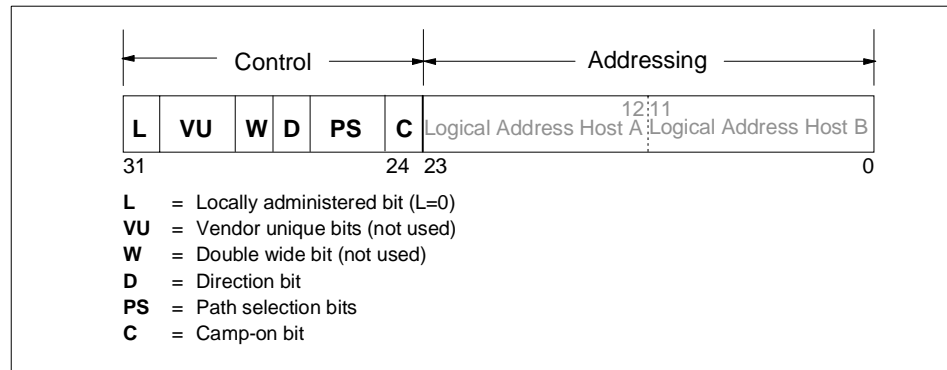

Figure 49. HIPPI I-Field Components
The I-field tells the GRF how to process the connection, and where to send the data. Figure 49 shows the basic structure of a HIPPI I-field. Connection control information is in the leftmost 8 bits, addressing takes up the other 24 bits.
HIPPI hosts set the direction bit (D). This bit determines how a switch or router reads the 24-bits of destination address information. Figure 49 on page 135 and the previous descriptions of source routing and logical addressing have the destination address information organized as if the host has set the destination bit to 0.